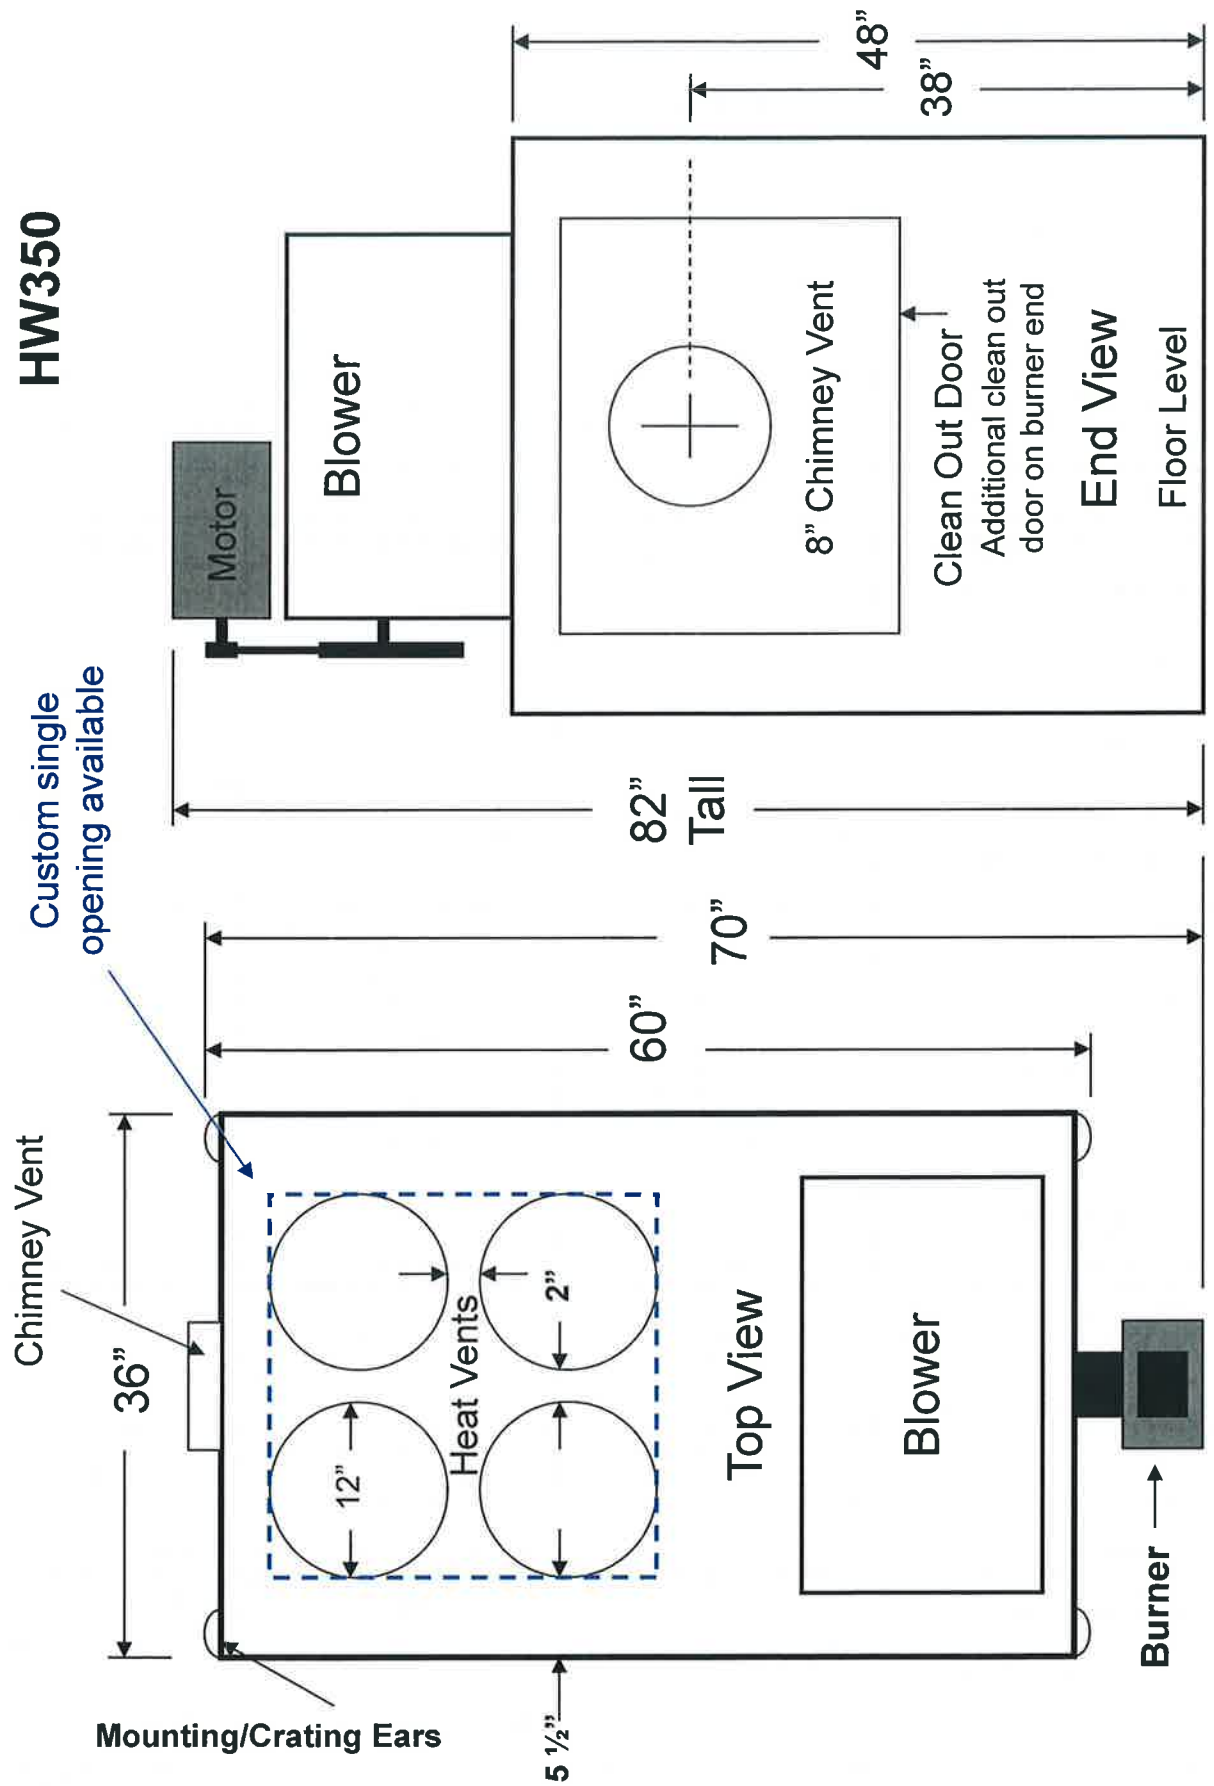

Figure 3
- Dimensional view of HW 350 (measurements)	Figure 3